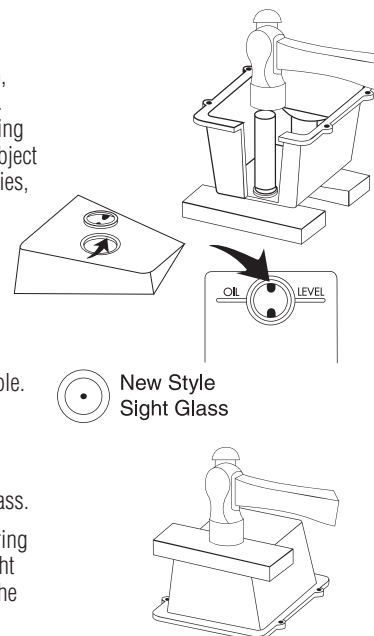

Figure 22
Step 1: With cover off of the pump, lay on two blocks of wood. Pop out the sight glass using a broom handle or other object as a punch. For DV-85 series, DV-142 series, or DV-200 series use a 1" diameter punch (**Figure 22**).